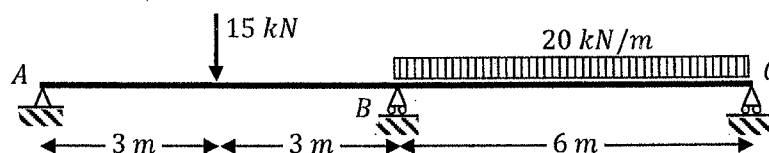

Figure Q2b
- (iii) Using the **Theorem of Three Moments**, analyse the continuous beam shown in **Figure Q2b** and draw the bending moment diagram. ( $EI$  is constant) [8 Marks]